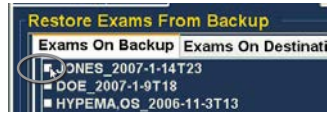

Figure 8.20 - Selecting the First Exam
1. Click in the check box beside the exam name as shown in Figure 8.20.